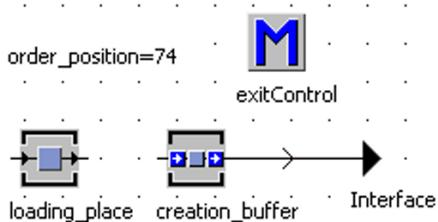

Fig. 4.53 Extension Sub-frame Control
- With a little effort, you can develop your own object for this purpose. To simulate a "pulling" by the production, the object needs its own "creation buffer." The creation buffer is connected to the buffer of the first production machine (often marking). When the creation buffer is empty, container and parts are generated according to the next position in the production sequence. Since the generation of parts needs to access all data from the "Control" network, we will build the necessary structure in this frame. Add the objects from Fig. 4.53 into the frame control.